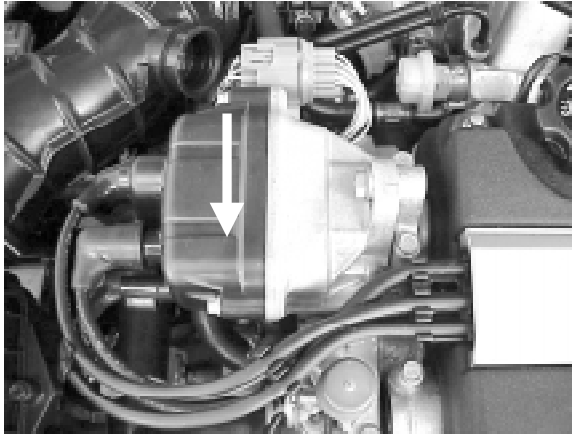

Figure 2.1
Step 8: Base Timing Adjustment. The base timing of the engine should now be retarded. With the distributor in its original position the Integra/CivicLink will produce a 20°BTDC base timing. This is too advanced and may cause the engine to detonate. Figure 2.1 illustrates the location of the distributor. Loosen the three bolts and rotate in a clockwise direction to retard the spark. Next select the ADV LIMIT menu from the * IGNITION * heading and set to zero. This will prevent the Integra/CivicLink scheduling any electronic advance and will provide spark at base timing. Now start the engine. At idle check the timing is approximately 10°BTC. The RED mark on the front pulley indicates 20°BTDC and the WHITE mark is TDC (set midway between Red and White marks). When finished switch the engine off and re-tighten the bolts.